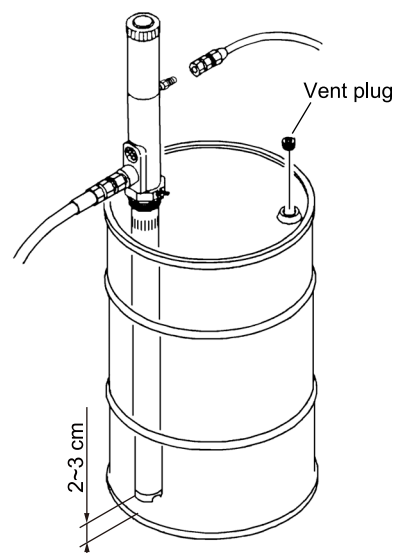

Fig. 4
- 4) Insert the pump into the bung adapter. After the lower end of the pump (foot valve section) hits the bottom of the drum, lift the pump by 2 to 3 cm to secure a gap between the bottom of the drum and the foot valve. After determining a position, tighten a wing bolt of the bung adapter to fix the pump. (Fig. 4)